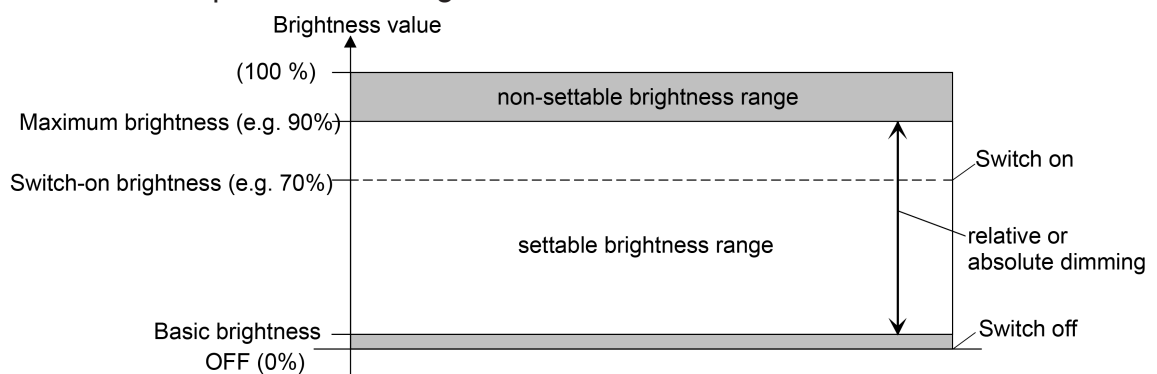

Figure 13: Example of a brightness range with basic brightness
- Definition of the lower brightness limit with basic brightness (see figure 13):